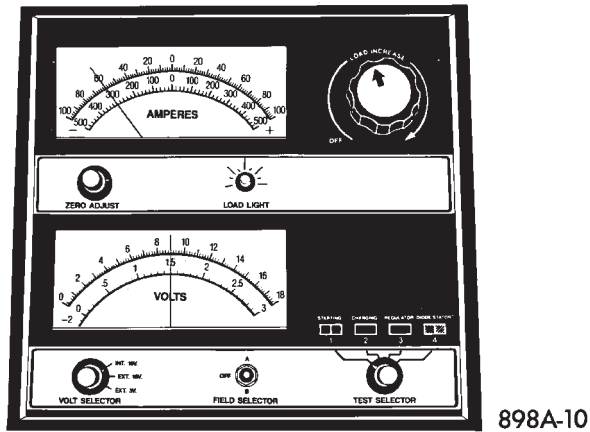

Fig. 6 Remove Surface Charge from Battery
(3) Rotate the load control knob (carbon pile rheostat) to apply a 300 amp load for 15 seconds, then return the control knob to OFF (Fig. 6). This will remove the surface charge from the battery.
(4) Allow the battery to stabilize to open circuit voltage. It may take up to 5 minutes for voltage to stabilize.